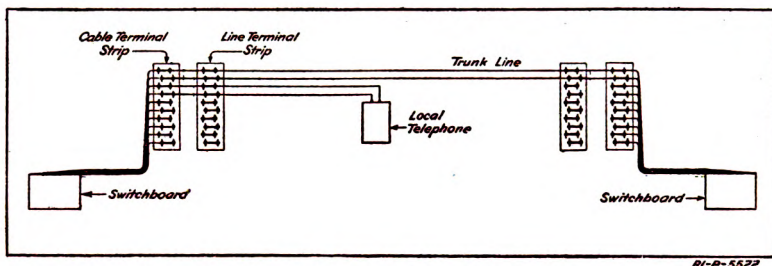

Fig. 46.—Metallic trunk and local circuits
- 1 wire net (Fig. 46), including 2 monocord switchboards, installed about 50 yards apart.
1. Prepare the wire net as shown in Fig. 46 prior to starting the Unit Operation. Provide one trunk circuit and one local circuit for each pair of students.